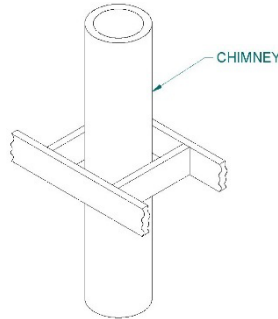

Figure 32
5. From below, install a firestop supplied by the chimney manufacturer (see **Figure 32**).